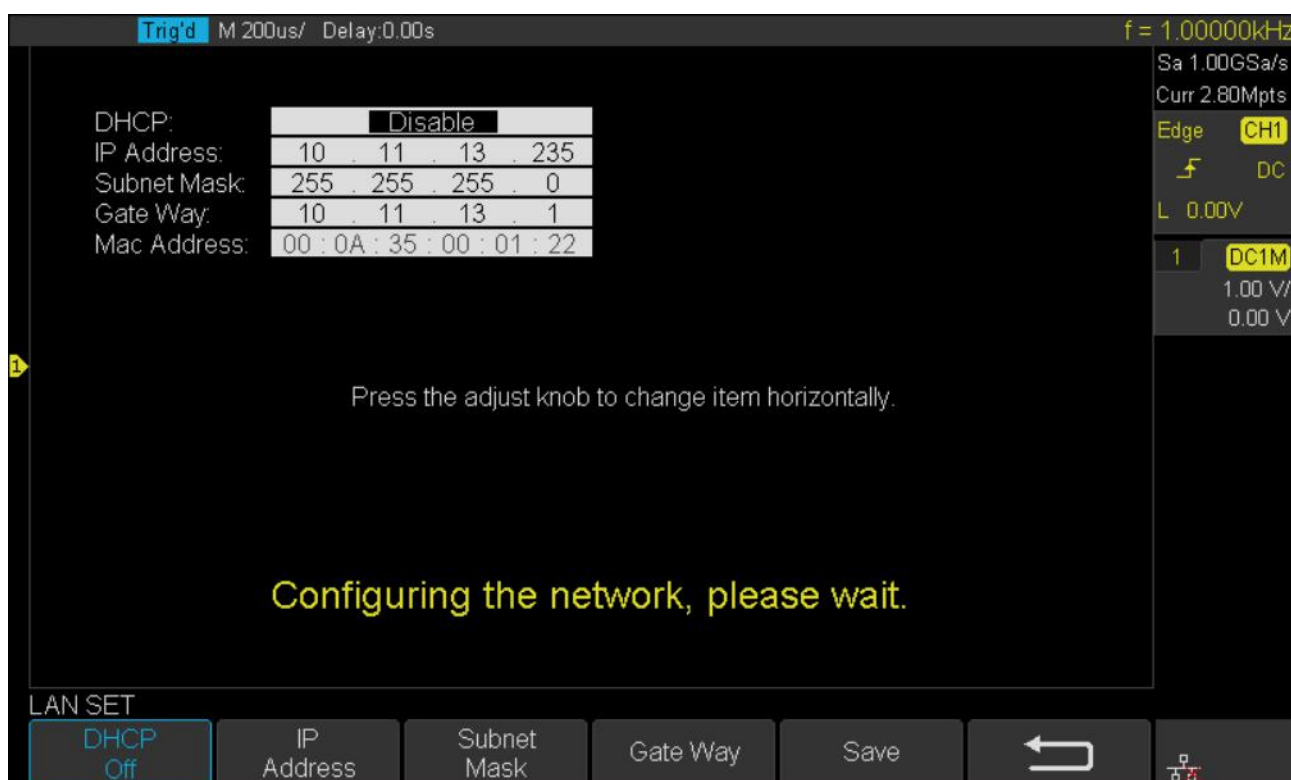

Figure 14.4 IP Set
5. Press the **IP Set** softkey to enter the IP setting interface, see figure 14.4.